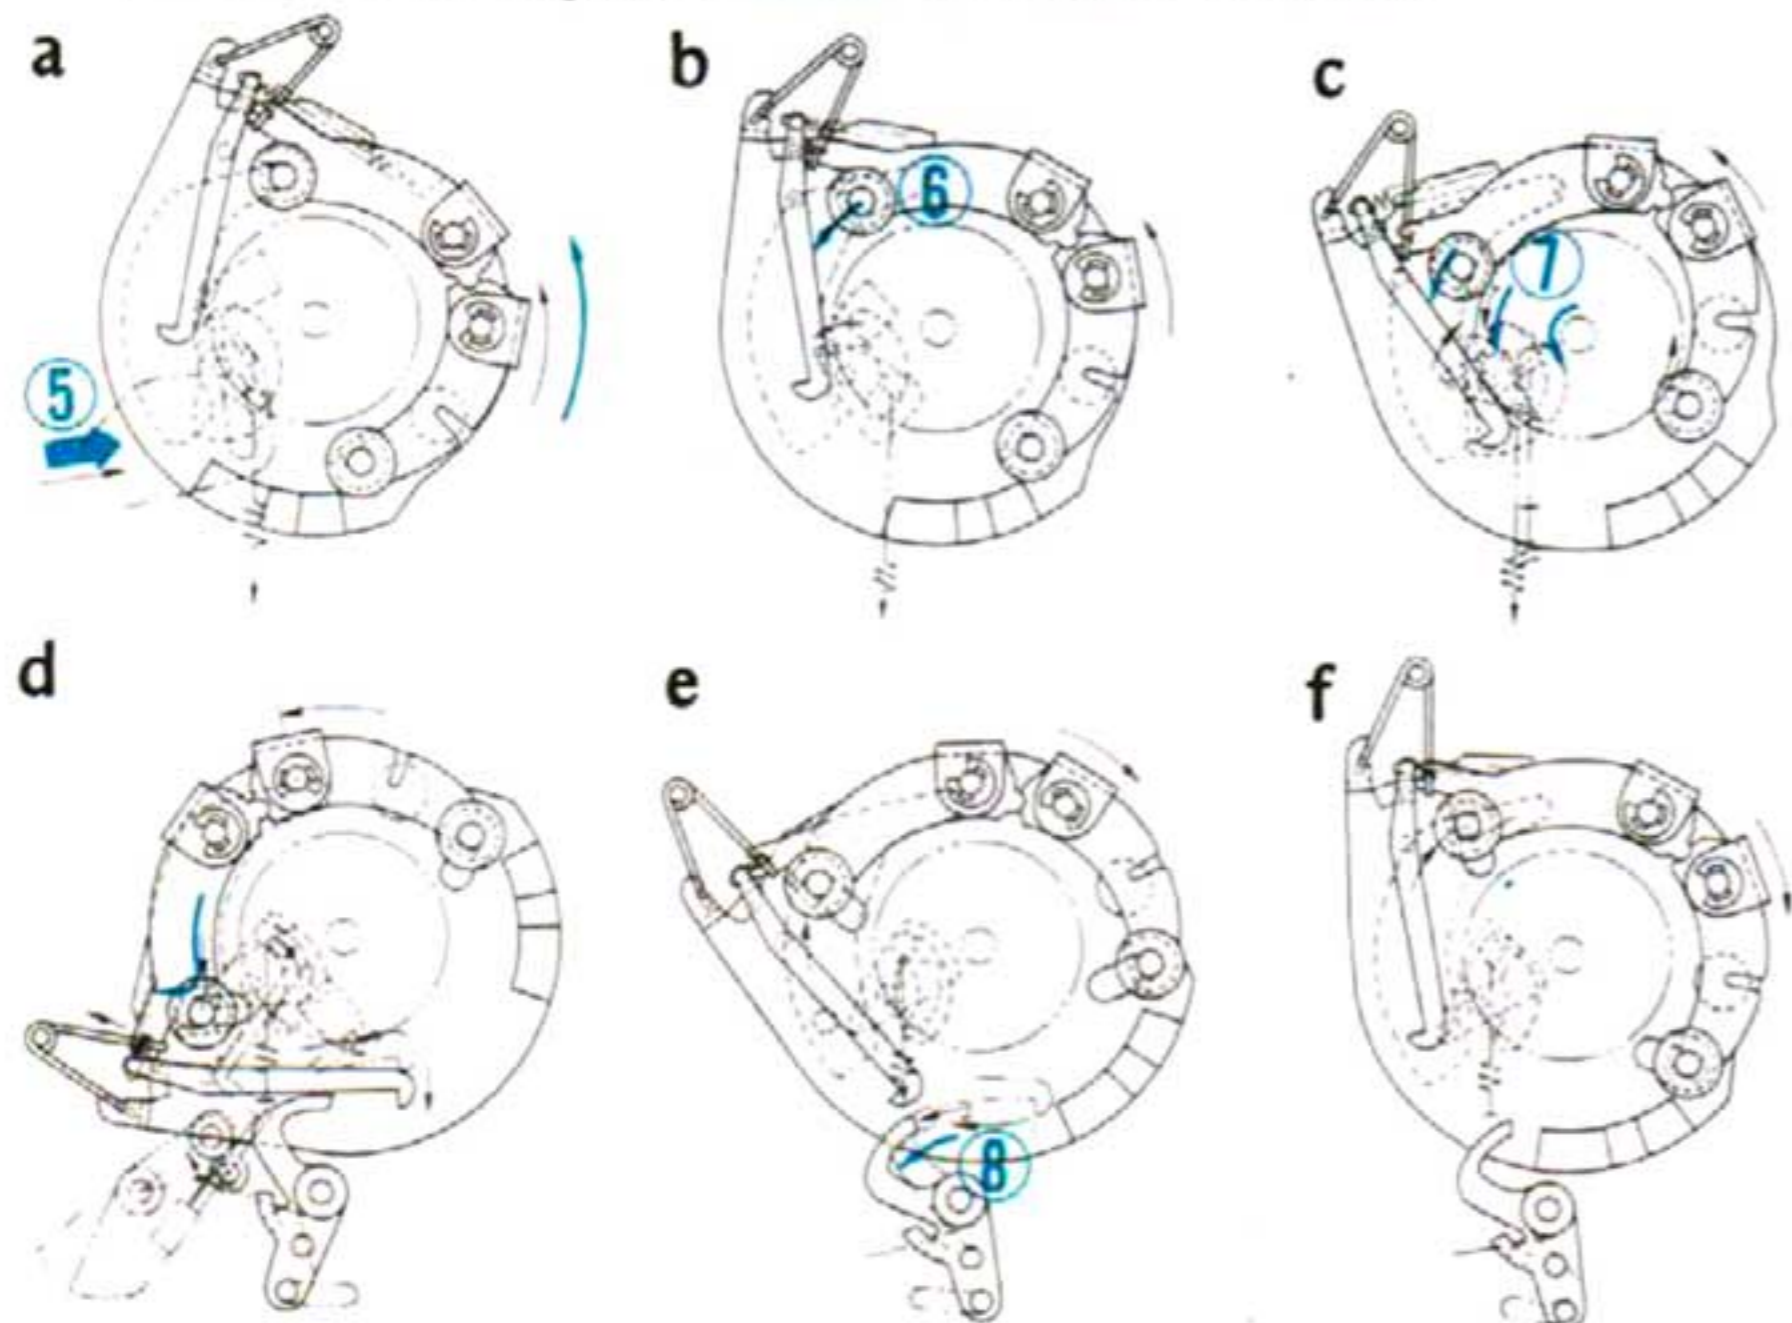

Fig. 3-2
1) AUTO-RETURN MOVEMENT (Fig. 3-2)